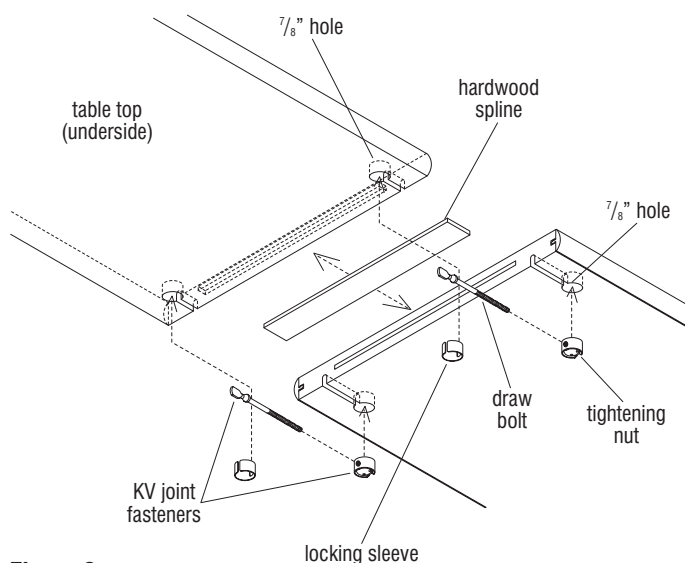

Figure 3
9. Table tops are to be joined together from underneath with two KV joint fasteners per pair of table tops (Figure 3). First join both table tops together, aligning the
hardwood spline (installed in one table top at the factory). Check to make sure the hardwood spline fits snug in both table tops. If it does not, lightly sand down the spline so it does fit. If this is not done, it may be difficult to get a tight fit on the table top seam. The spline joint and table top seam are to be glued using the adhesive supplied with the KV fasteners. Do not use a wood glue for seam gluing as the working time for that adhesive is too short. Thread each draw bolt a few turns into each tightening nut and press each pair up into a $\frac{7}{8}$ " hole and slot. The flat end of each draw bolt will be visible in the $\frac{7}{8}$ " holes of the table top being joined. Insert locking sleeves into the $\frac{7}{8}$ " holes so that the slotted sleeve engages the rounded collar on the bolt (Figure 3). Tighten the nut with a tightening tool or nail set. Check the top side of the joint for alignment. The joint should be smooth and level, with no gaps. Adjust as necessary to achieve a "seamless" look. Once the seam is glued and KV fasteners are installed, use C-clamps to clamp both ends of the seam.